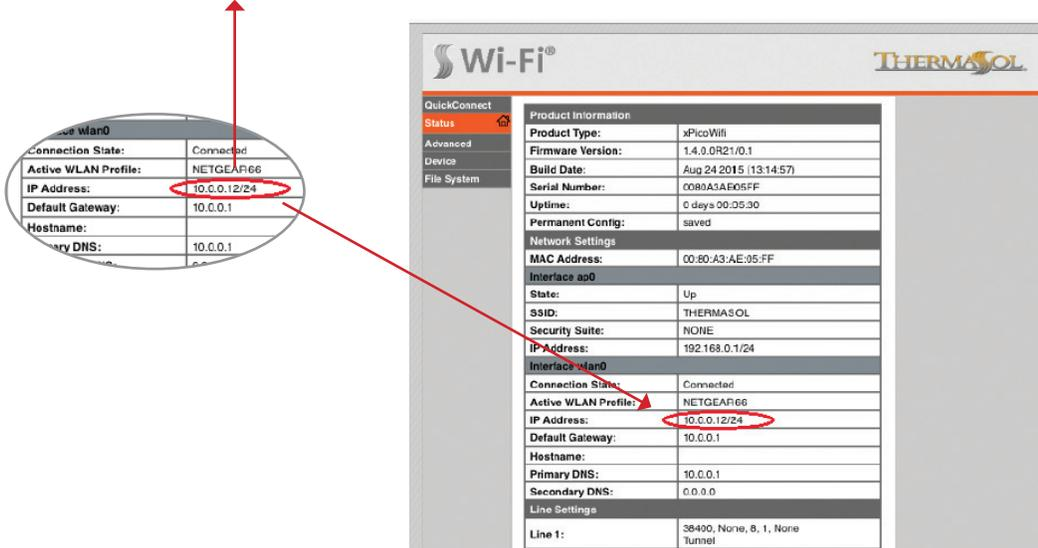

Figure 11: SWM-2 WLAN IP address circled in red
9. Make a note of the assigned IP Address as shown below in Figure 11. Use only the portion of the address that precedes the forward slash, 10.0.0.12 in this example (the IP address shown is for illustration purposes only, the customers assigned IP address may differ)